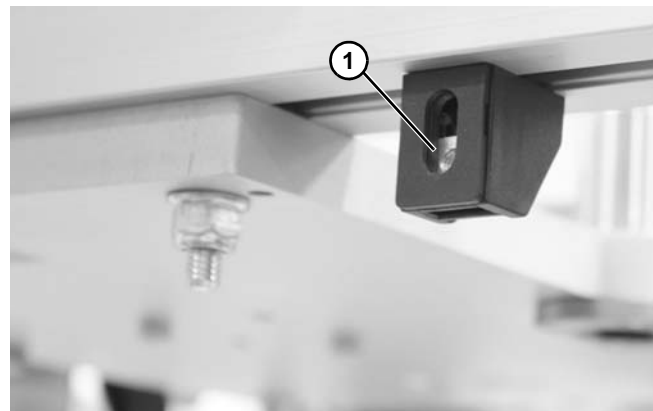

Figure 31
2. Rotate mounting blocks so that slot with nut (**Figure 31, item 1**) faces out.